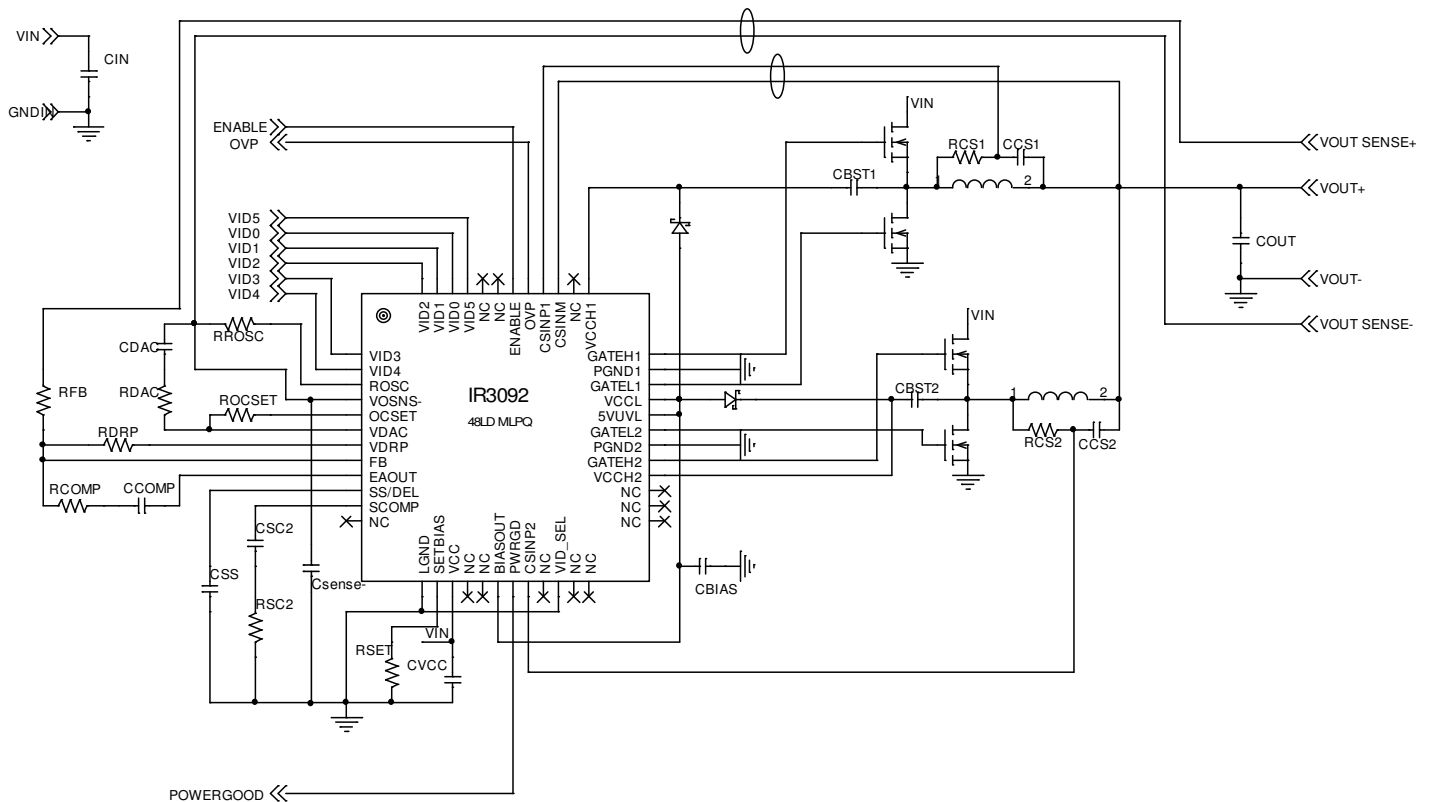

Figure 6 – System Diagram
VDAC sink current  $I_{SINK}$  and source current  $I_{SOURCE}$  are determined by  $R_{ROSC}$ , and their value can be found using the curve in the Typical Operating Characteristics. The slew rate of VDAC down-slope  $SR_{DOWN}$  can be programmed by the external capacitor  $C_{DAC}$  as defined in Equation (1) and shown in Figure 6. Resistor  $R_{DAC}$  is used to compensate VDAC circuit and is determined by Equation (2). The slew rate of VDAC up-slope  $SR_{UP}$  is proportional to the down-slope slew rate  $SR_{DOWN}$  and is given by Equation (3).
The oscillator frequency is programmable from 100kHz to 540kHz with an external resistor  $R_{ROSC}$  as shown in Figure 6. The oscillator generates an internal 50% duty cycle saw tooth signal (Figure 4.) that is used to generate 180° out-of-phase timing pulses to set Phase 1 and 2 RS flip-flops. Once the switching frequency is chosen,  $R_{ROSC}$  can be determined from the curve in the I(SETBIAS) vs.  $R_{ROSC}$  curve in the Typical Operating Characteristics Section.